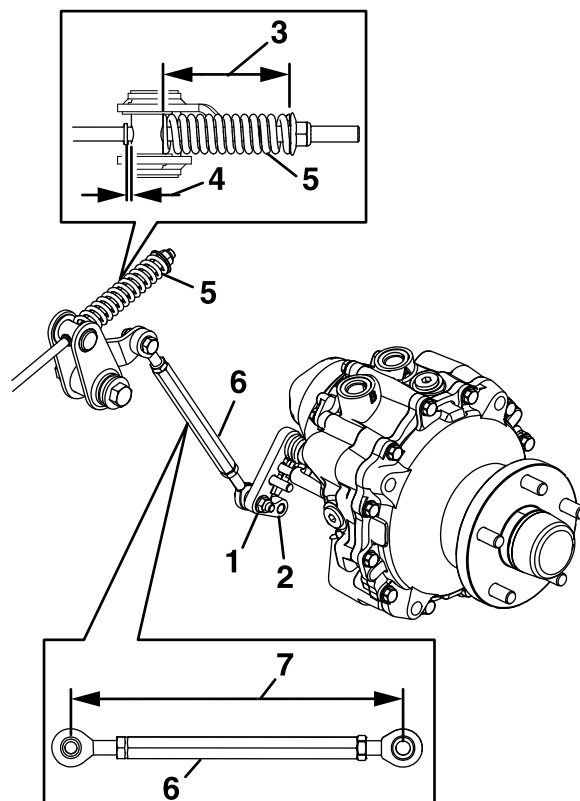

Figure 57
7. Measure the length of the link assembly (Figure 57).
8. Measure the length of the spring (Figure 57).